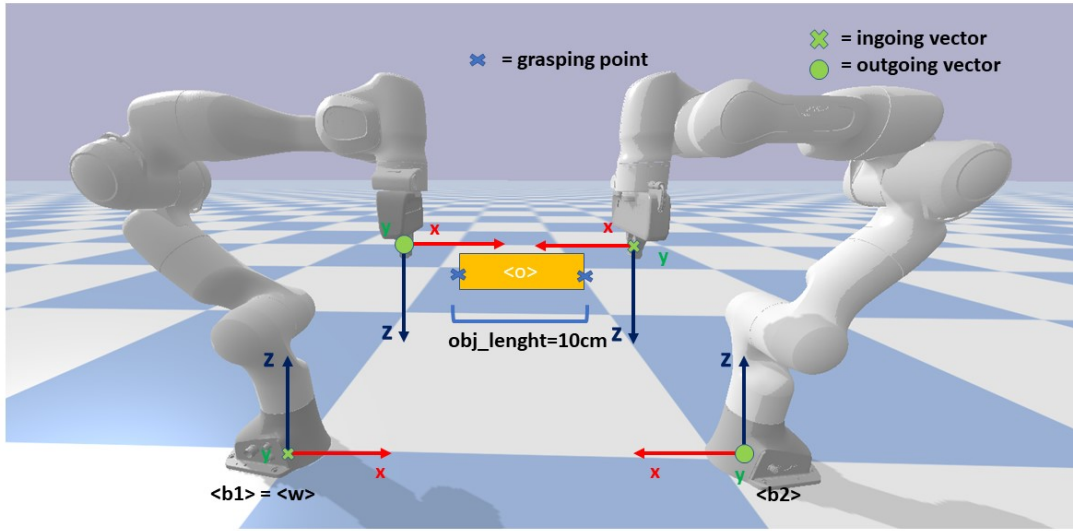

Figure 2: Tool frame positioning
5. The first objective is to move the tool frame of both manipulators to the grasping points, using the “move to action”. Define the goal frames for each manipulator such that their origin correspond to the grasping points depicted in Figure 2, and their orientation corresponds to the frame depicted in the same Figure. HINT: the position of the grasping points can be computed by knowing the origin of the object frame wO_o and the object length reported in Figure 2